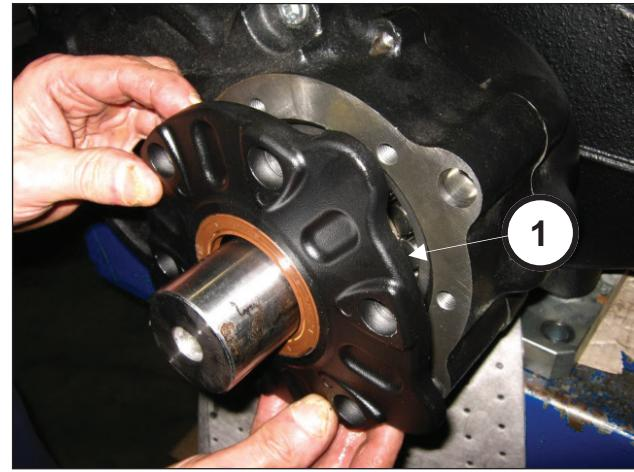

Fig. 93
Insert the pinion cover in its housing (pos. ①, Fig. 93).